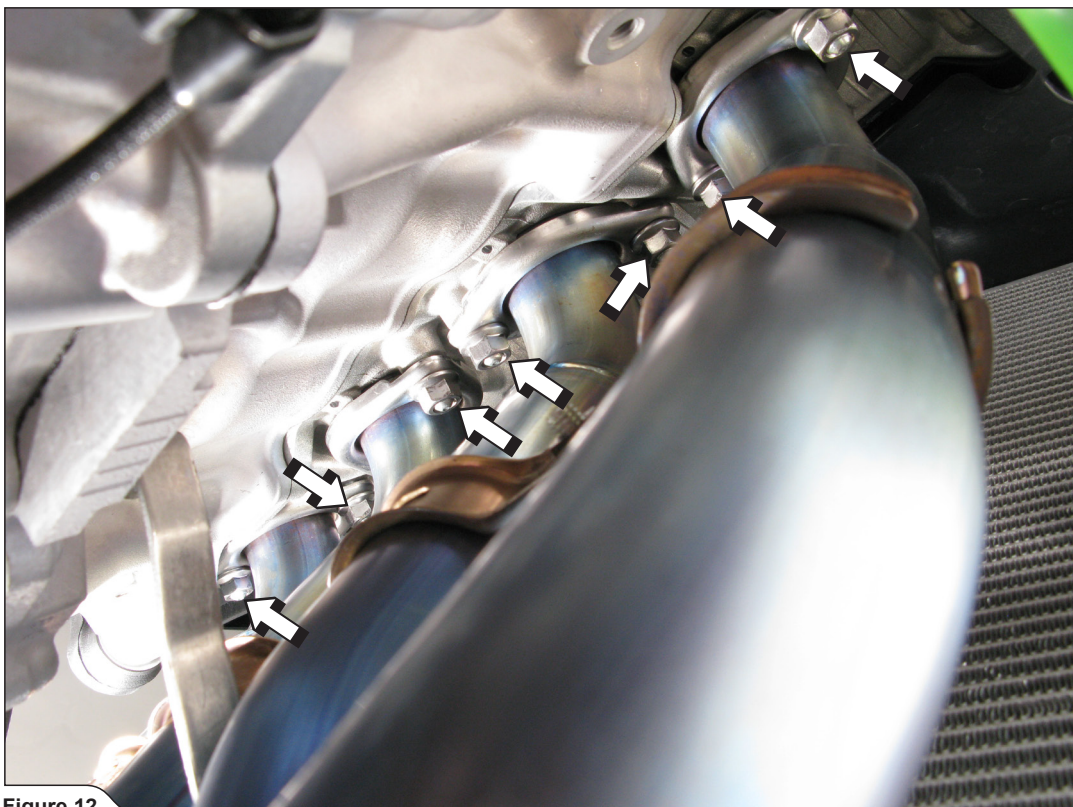

Figure 12
11. Unscrew all flange nuts (**Figure 12**). Remove the headers off the motorcycle.